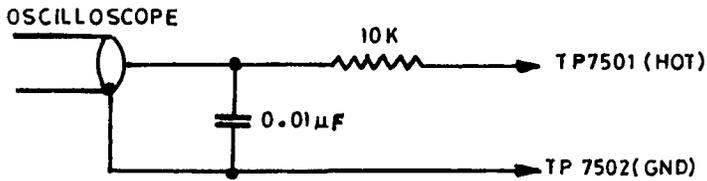

Fig. 11.26
2. Now connect the oscilloscope to TP 7501 (HOT) and TP 7502 (GND) through the filter. (Fig.11.26)